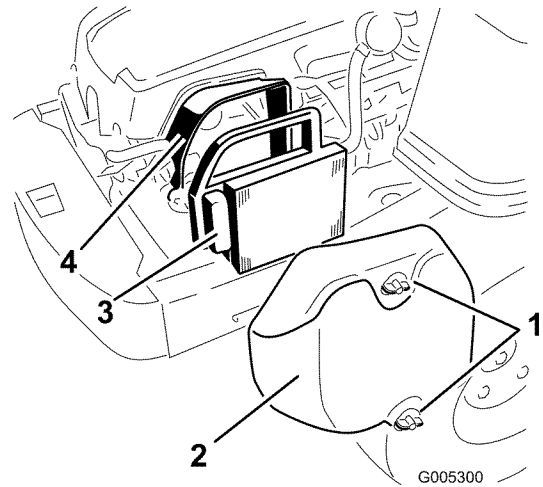

Figure 26
1. Remove the air cleaner cover (Figure 26).
2. Remove the air cleaner element with the integral rubber seal (Figure 26).
- Install the air cleaner element with the pleated side “out” and seat the rubber seal onto the edges of the air cleaner base (Figure 26).
- Reinstall the air cleaner cover and secure with the two knobs (Figure 26).